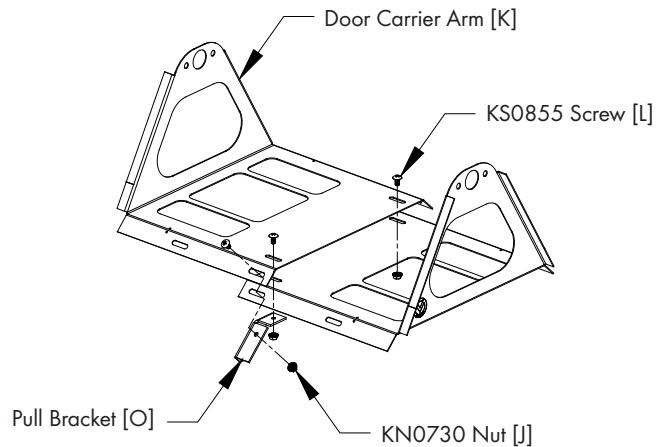

Figure 2
Locate 2 Door Carrier Arms [K] and a Pull Bracket [O] and fasten them together using (3) KS0855 Screws [L] and KN0730 Nuts [J]. See Figure 2. Do not tighten at this time.